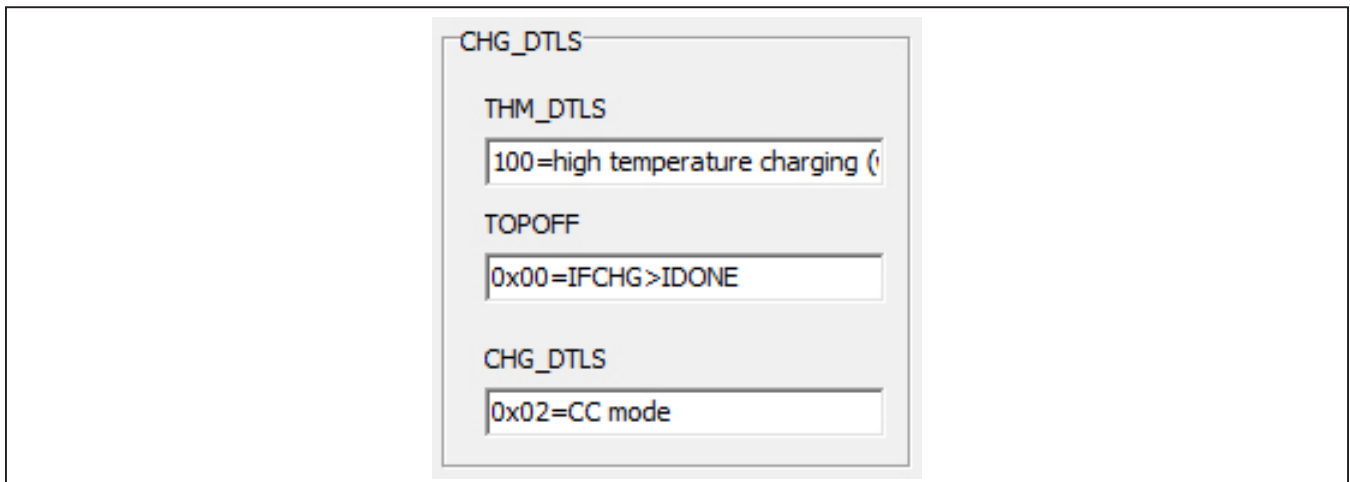

Figure 8. Charger Details
- 5) Charging status can be monitored through registers in tab **CHG INT AND DETAILS**. Clicking **Read All**, CHG_DTLS → CHG_DTLS gives the charging status that the battery is currently involved in, as indicated in Figure 8.